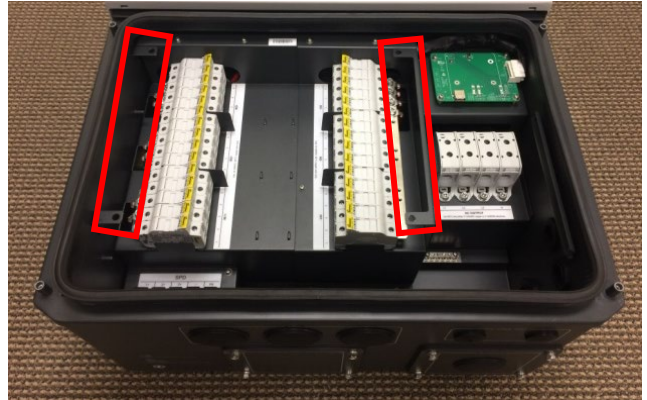

Figure 10-2 Remove Plastic Touchsafe Finger Guards
3. Remove the plastic touch-safe finger guards (Figure 10-2).